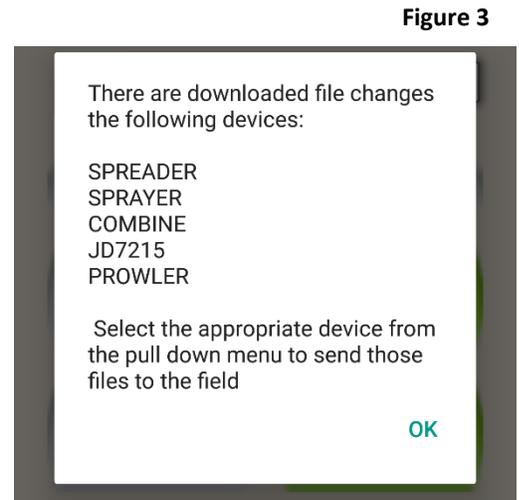

Figure 3
- a. **Automatic download** whenever the AGBRIDGE™ app checks with the AGBRIDGE™ Cloud Server for new files to download. If prescription, boundary or guidance files are downloaded you will receive a note like that in *Figure 3* advising you what machines have new files waiting to be transported, and the “**SEND TO FIELD**” button for the “Machine Name” the files were downloaded to will turn **green** with file details displayed.
- b. **By long pressing “GET FROM HOME”** on the main page of the AGBRIDGE™ app for any machine when a data connection is present. All new files that have been synced to the AGBRIDGE™ Cloud Server, regardless of the machine selected in the “Machine Name” drop down box, will be downloaded to the AGBRIDGE™ app. If prescription, boundary or guidance files are downloaded you will receive a note like that in *Figure 3* advising you what machines have new files waiting to be transported, and the “**SEND TO FIELD**” button for the “Machine Name” the files were downloaded to will turn **green** with file details displayed.